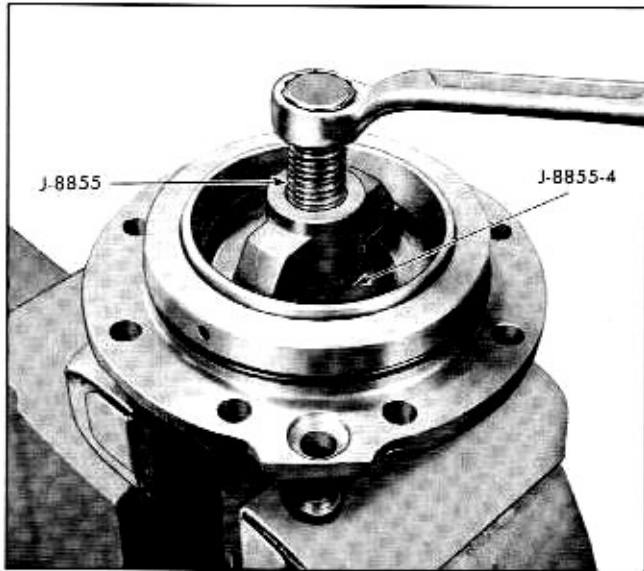

Fig. 4-40 Removing Rear Pinion Bearing Outer Race
2. Remove rear pinion bearing outer race using J-8855 and bottom J-8855 (Fig. 4-40).
4. Remove rear pinion bearing outer race from retainer using tool J-8855 with J-8855-4 adapter (Fig. 4-40).